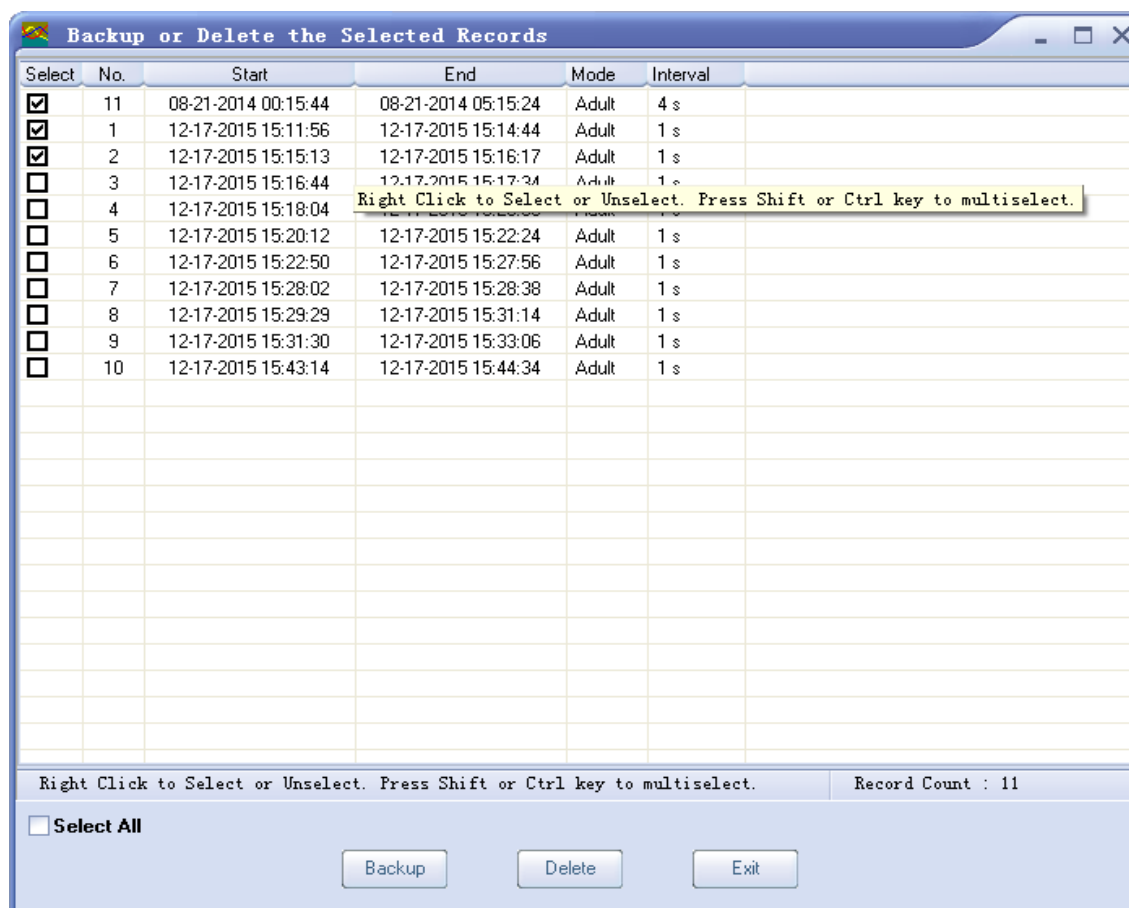

Figure 3.8B Backup/Delete selected record
- ✧  **Backup/Delete:** Click this icon, then a dialog (as shown in figure 3.8B) pops up on the screen, which allows user to back up (the file name will be "xxx.dat") or delete the selected data records.